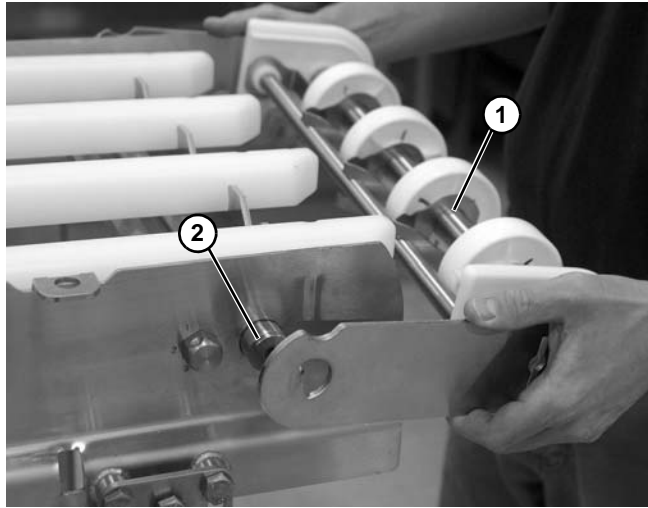

Figure 89
3. Remove idler assembly (**Figure 89, item 1**) from each tip up assembly stud (**Figure 89, item 2**) on conveyor frame.